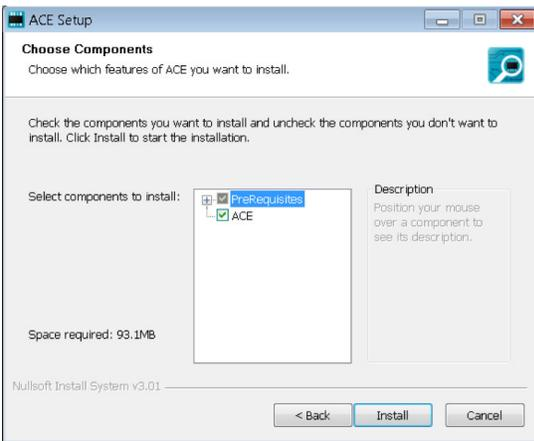

Figure 12. Choose Components
- The ACE software components to install are preselected (see Figure 12). Click **Install**.